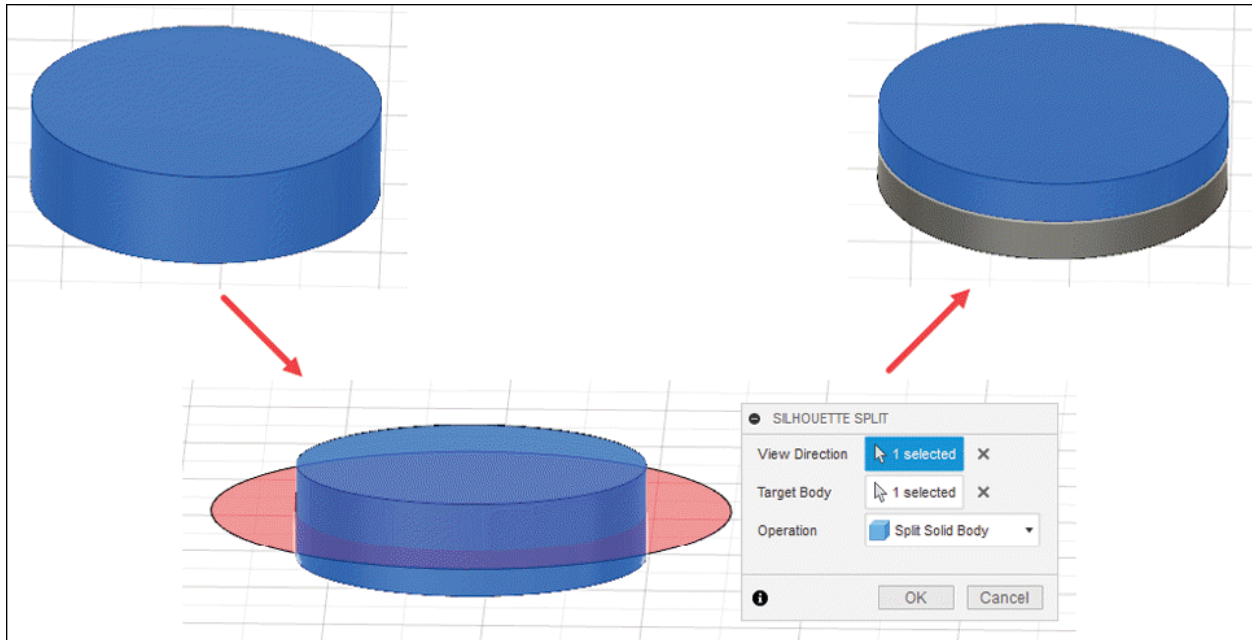

Figure-50. Preview of silhouette split
- After specifying the parameters, click **OK** button of **SILHOUETTE SPLIT** dialog box to finish the process; refer to Figure-50.